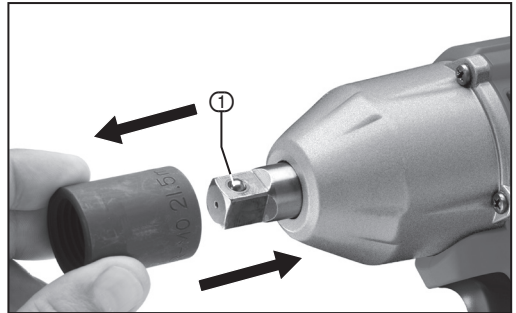

FIG. 1
6.1 INSTALLING AND REMOVING SOCKETS – FIG. 1